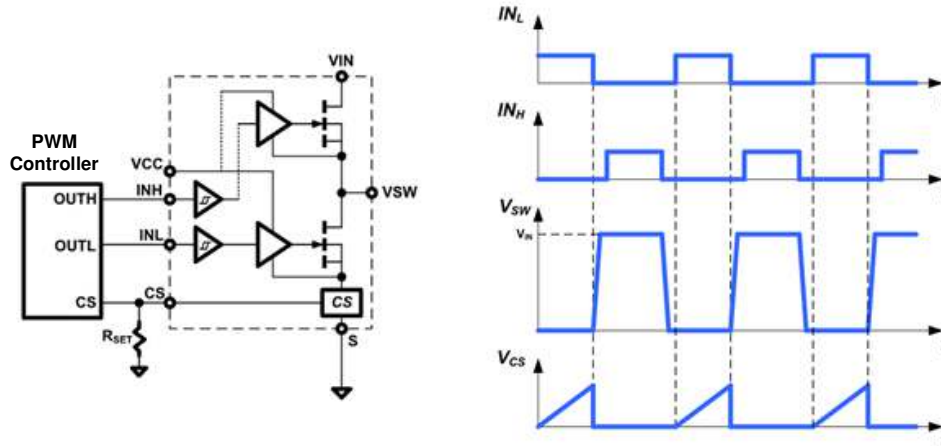

Fig. 29. External resistor sensing vs. GaNSense™ Technology
For many applications it is necessary to sense the cycle-by-cycle current flowing through the low-side GaN power FET. Existing current sensing solutions require a current sensing resistor to be placed in between the source of the low-side GaN power FET and  $P_{GND}$ . This resistor method increases system conduction power losses, creates a hotspot on the PCB, and lowers overall system efficiency. To eliminate this external resistor and hotspot, and increase system efficiency, this GaN Half-Bridge IC includes GaNSense™ Technology for integrated and accurate loss-less current sensing. The current flowing through the internal low-side GaN power FET is sensed internally and then converted to a current at the current sensing output pin (CS). An external resistor ( $R_{SET}$ ) is connected from the CS pin to the Source ( $P_{GND}$ ) and is used to set the amplitude of the CS pin voltage signal (Fig. 29). This allows for the amplitude of the CS pin signal to be programmed so it is compatible with different controllers with different current sensing input thresholds.